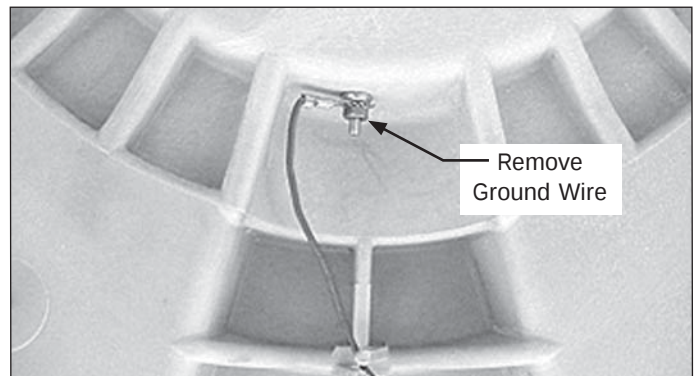

Figure 4-100.
8. Disconnect bearing ground wire. (See Figure 4-100)